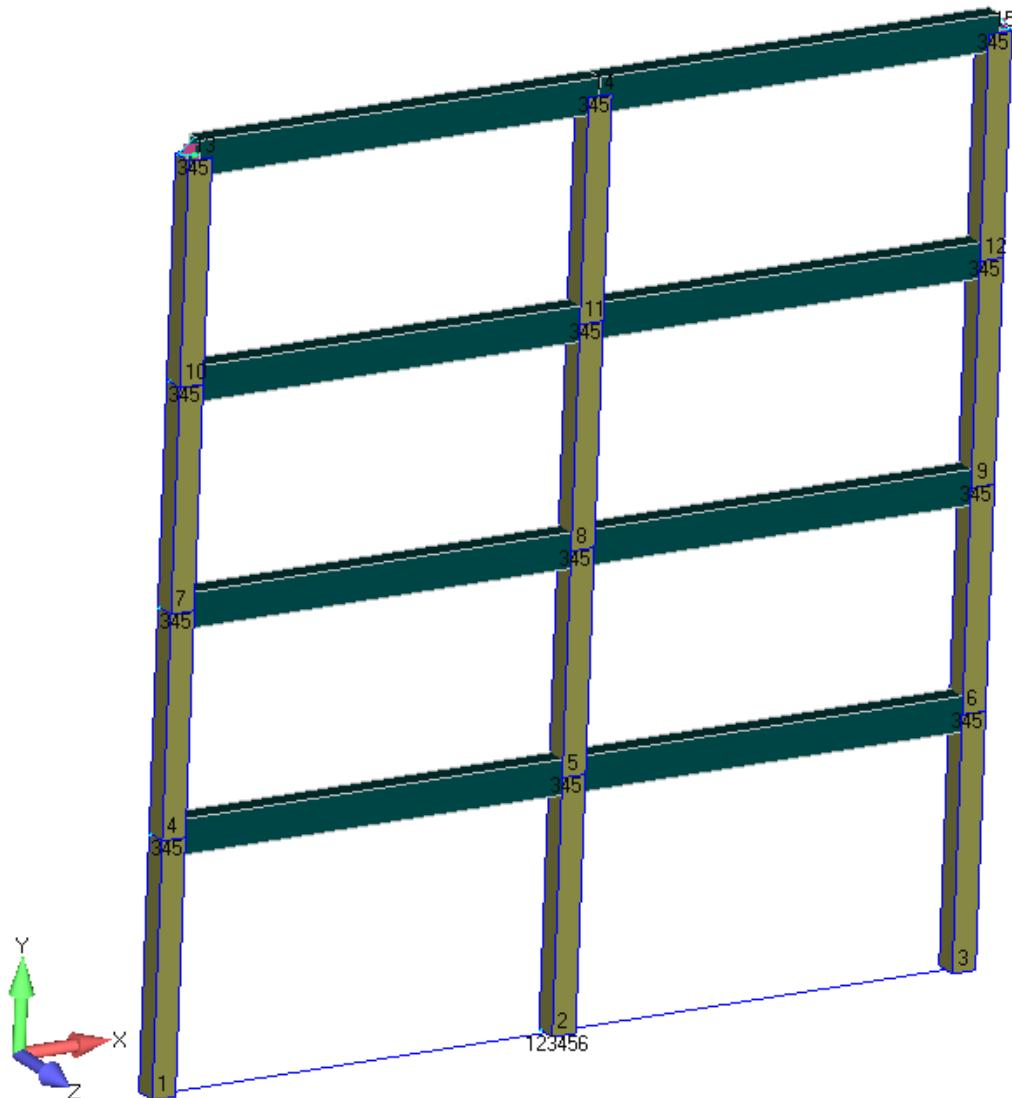
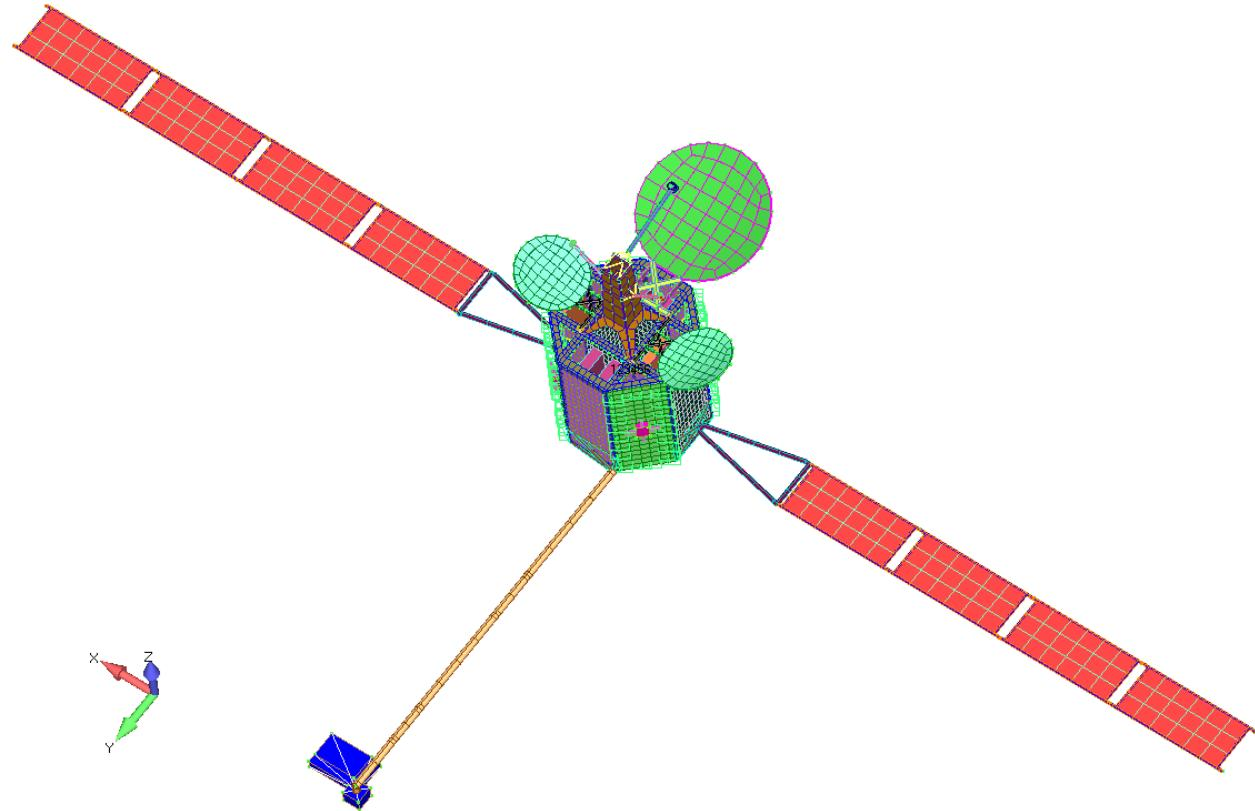

Figure 4-3. Two-dimensional frame model.
Figure 4-6. Isat model in deployed configuration.
The two-dimensional frame model (Figure 4-3) consists of an array of bar elements three columns wide and four rows high. Concentrated mass elements are located at each intersection of bar elements while the bars themselves are massless, thus making this a lumped mass approximation. The bottom node of each outer column is connected by a rigid element to the bottom node of the center column, which is fixed in all six DOF. Enforced motion in X translation is enabled at this node. Out-of-plane (Z) translation and X and Y rotation are constrained at all other nodes.
The deployed configuration “Isat_Dploy_Sm.dat” (Figure 4-6) is a free-free model with the launcher adapter removed and the solar panels, antenna dishes, and instrument package deployed. This model includes residual vectors that can improve stress calculations for loads applied at the reaction control system (RCS) thrusters.
You may wish to adjust the view settings in Femap at this point. For example, in the figures showing the frame and Isat models (Figure 4-3 through Figure 4-6), we set the background color to solid white; set the color of all labels and postprocessing titles to black; had Femap assign a different color to each physical property in the model and then set the element color mode to use physical property colors; and set the element orientation/shape option to show cross sections, which also shows shell element thickness.
1. In Femap, import the frame model “frame01_modes.dat” (Figure 4-3). Save the Femap model file as “frame.modfem.”